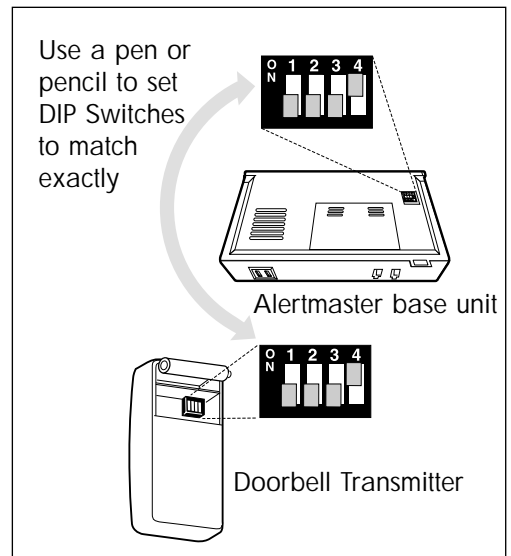

Figure 5 - Channel setting
3. Change the switch position of each switch on both units using a ball point pen. All settings need to be identical for the system to work. See Figure 5.